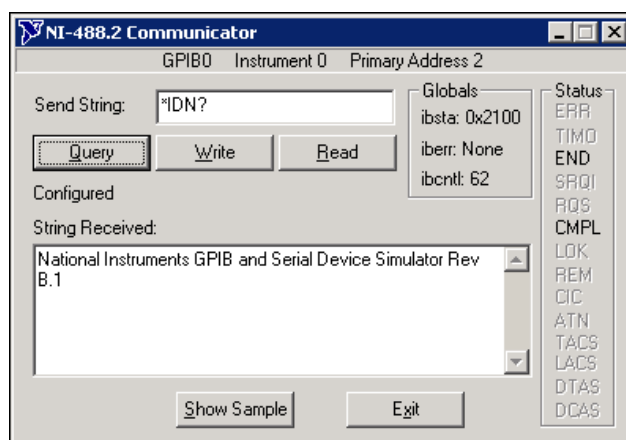

Figure 11.3
11. Type *IDN? in Send String and click the Query button. The instrument returns its make and model number in String Received. You can use this window (Figure 11.3) to debug instrument problems or to verify that specific commands work as described in the instrument documentation.